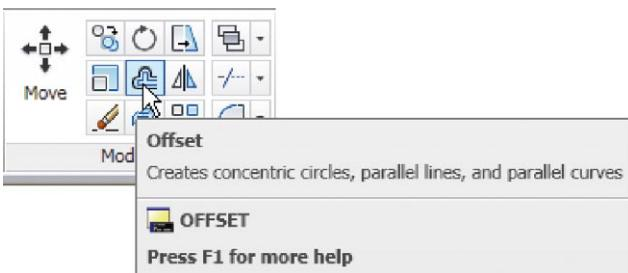
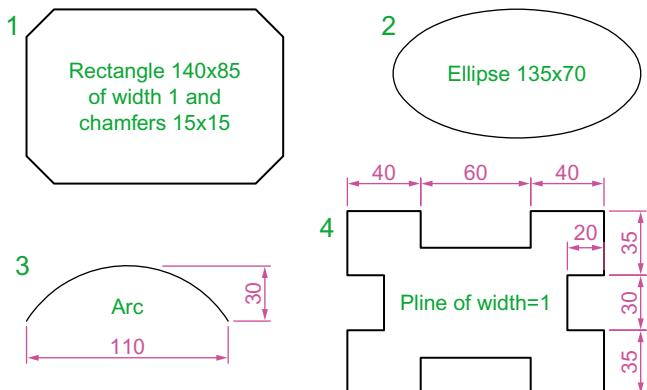
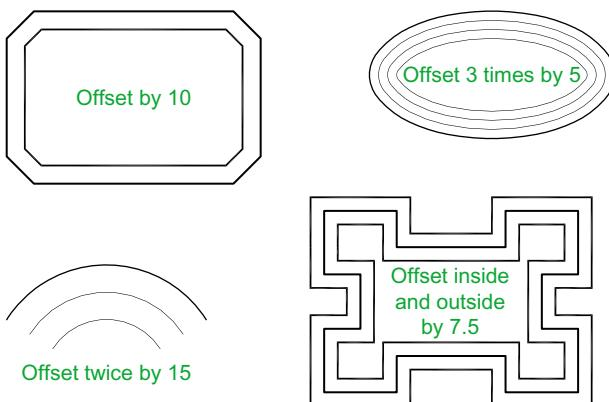

Fig. 5.12 The **Offset** tool from the **Home/Modify** panel
Fig. 5.13 Examples – **Offset** – outlines
Fig. 5.14 Examples – Offset
Examples – Offset (Fig. 5.14)
1. Construct the four outlines shown in Fig. 5.13.
2. Call the **Offset** tool – *left-click* on its tool icon in the **Home/Modify** panel (Fig. 5.12), pick the tool name in the **Modify** drop-down menu or *enter o* or **offset** at the command line. The command line shows (Fig. 5.13):
3. Repeat for drawings 2, 3 and 4 in Fig. 5.12 as shown in Fig. 5.14.